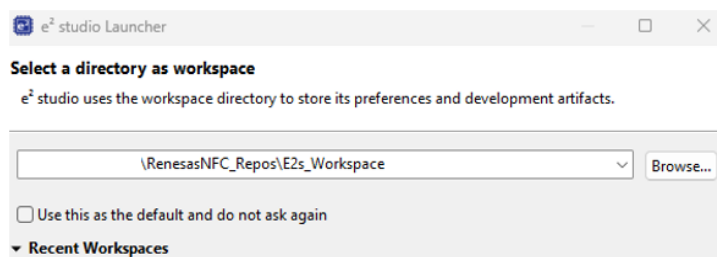

Figure 2. Select a Directory as Workspace
- Figure 2. Select a Directory as Workspace3
After extracting the project content, open it directly as an e2 Studio project as follows (see Figure 2):